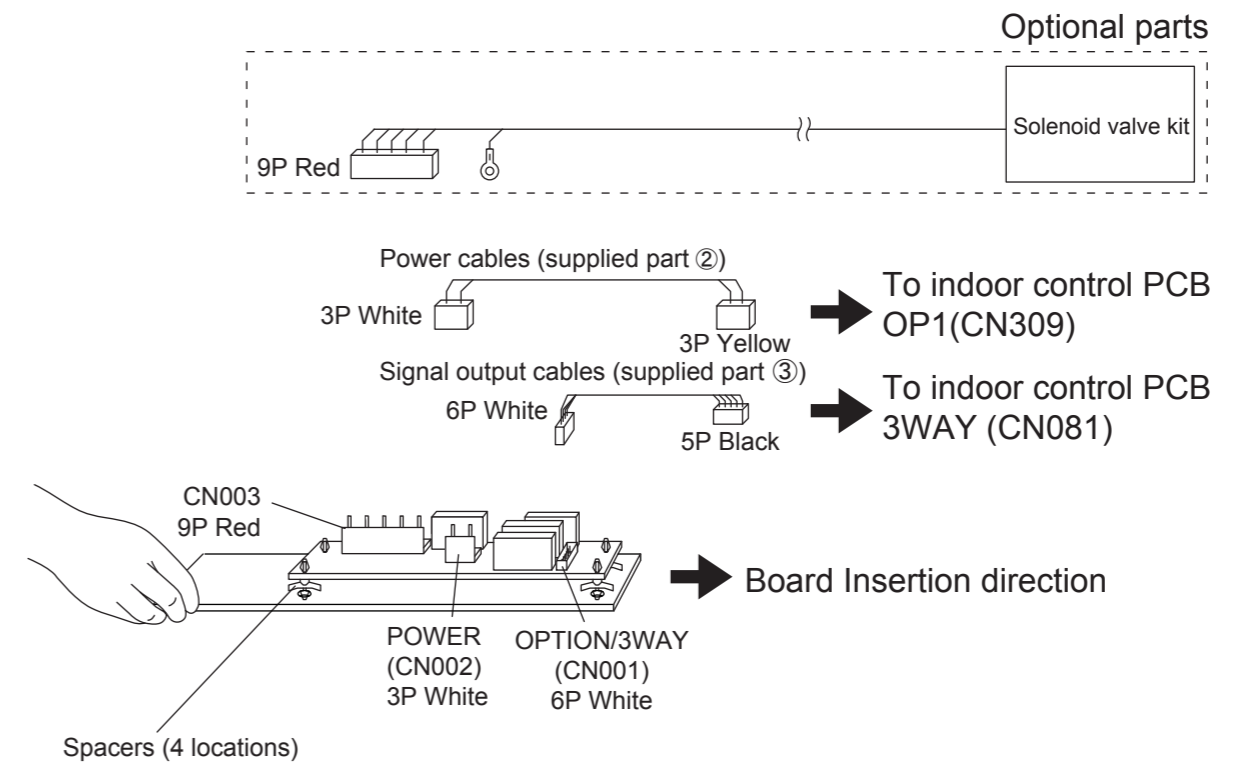

Fig.7
- Connect the solenoid valve kit ground wire to the indoor unit ground wire mounting position. Also connect the 9P connector (red) of the solenoid valve kit to the CN003 9P connector (red) on the solenoid valve control PCB. (Fig.7, 8)
- Connect the 3P connector (white) of the power cables (supplied part ②) to the CN002 POWER connector (white) on the solenoid valve control PCB (supplied part ①) (Fig.7)
- Connect the 6P connector (white) of the signal output cables (supplied part ③) to the CN001 3WAY connector (white) on the solenoid valve control PCB.(Fig.7 )
- \* Pay attention to the insertion direction of the solenoid valve control PCB. (Fig.7)